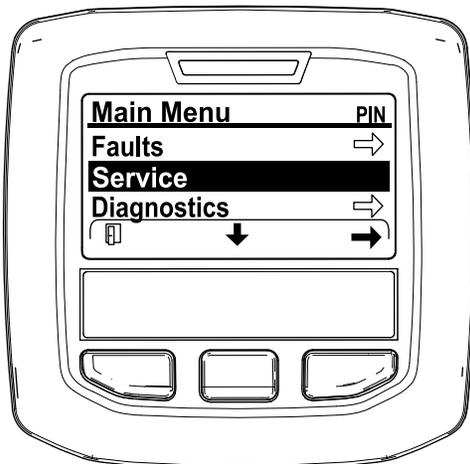

Figure 31
2. Navigate to the MAIN MENU, press the center button to scroll down to the SERVICE MENU, and press the right button to select the SERVICE option (Figure 31).